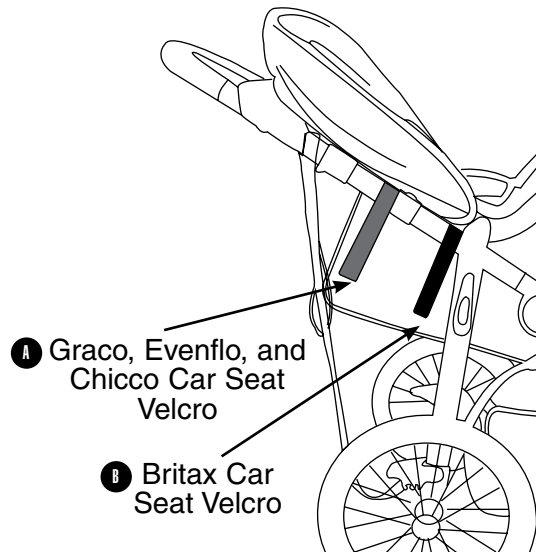

Fig. 14F
27. Final step is to secure the car seat to the stroller using the straps with velcro. (Fig. 14F)